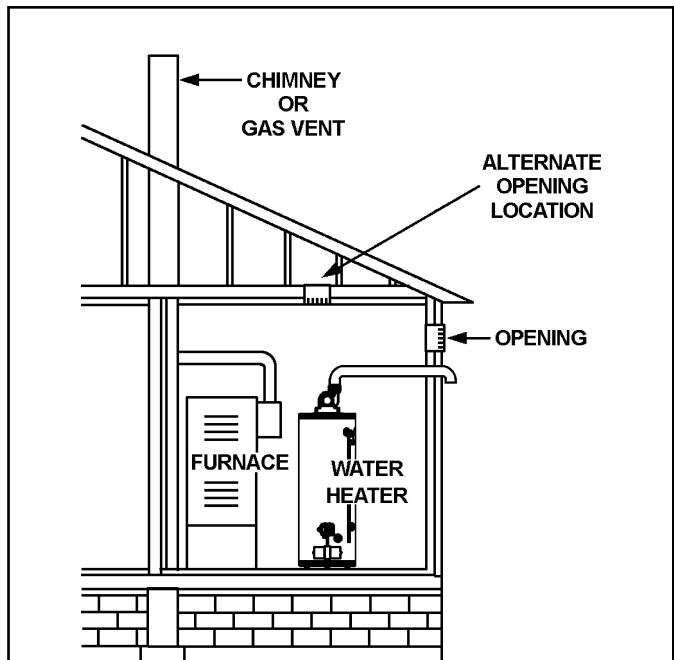

Figure 19.
5. Alternatively a single permanent opening may be used when communicating directly with the outdoors, or with spaces that freely communicate with the outdoors. The opening shall have a minimum free area of 1 square inch per 3,000 Btu/hr of total input rating of all equipment in enclosure (see Figure 19).